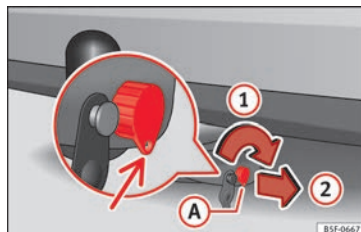
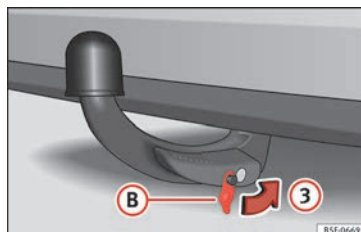

Fig. 227 Locking the lock.
Fig. 228 Placing the cover over the lock.
- Turn key **A** in the direction of arrow ① until the part of the key with the holes reaches the bottom position » **Fig. 227**.
- Remove the key in the direction of arrow ②.
- Place cover ③ in the lock in the direction of arrow ③ » Fig. 228 » ①.